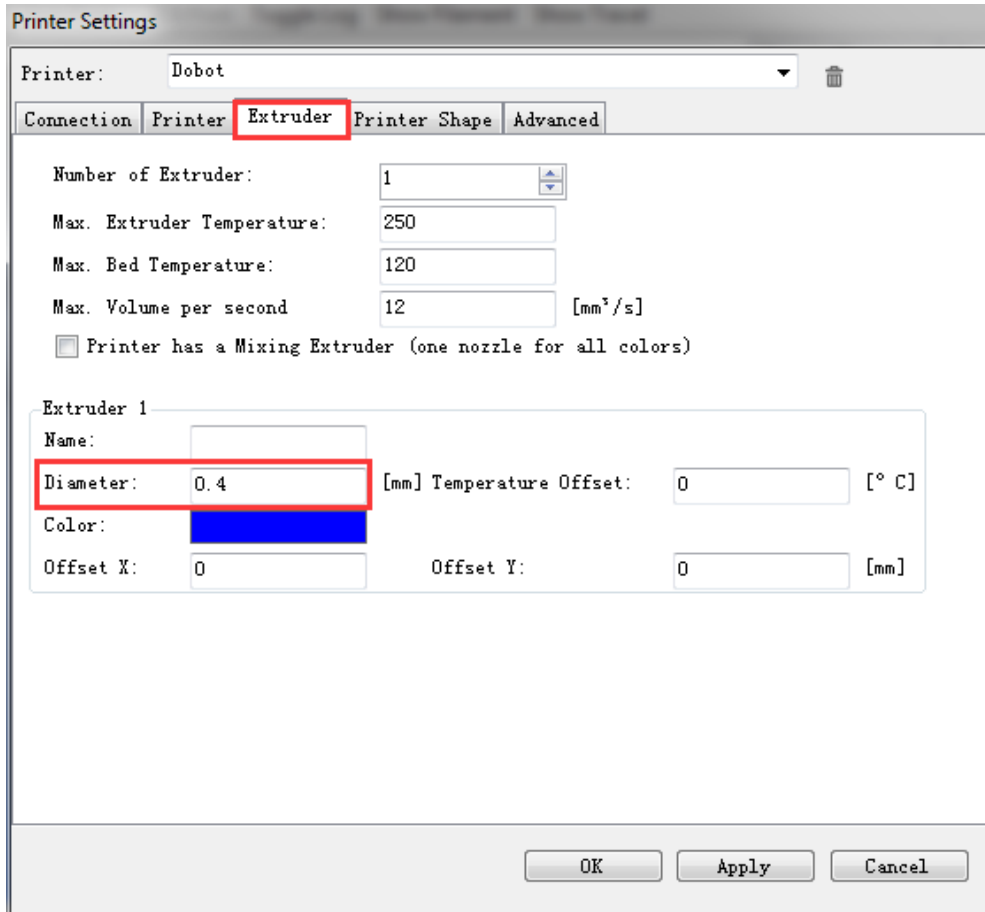

Figure 5.116 Extruder settings
5. Set the corresponding parameters on the **Extruder** tab as shown in the red box of Figure 5.116, the other parameters are set by default. Then, Click **Apply**.